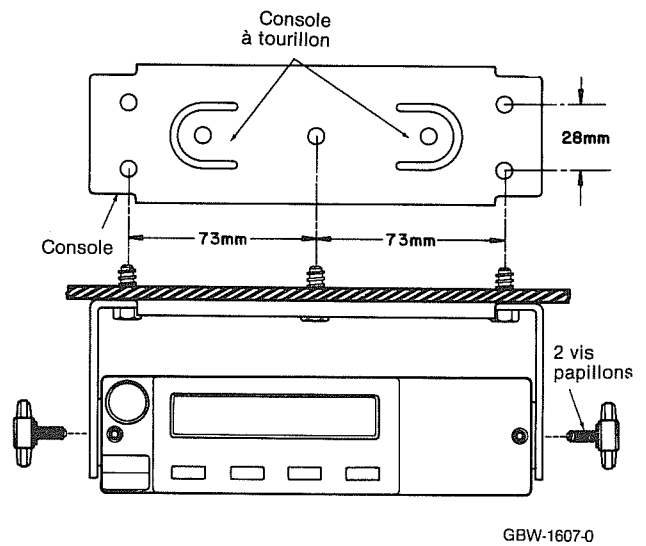

Figure 4
1.3 MONTAGE AVEC TOURILLON SOUS LE TABLEAU DE BORD OU SUR LE TUNNEL DE TRANSMISSION (voir figure 4)